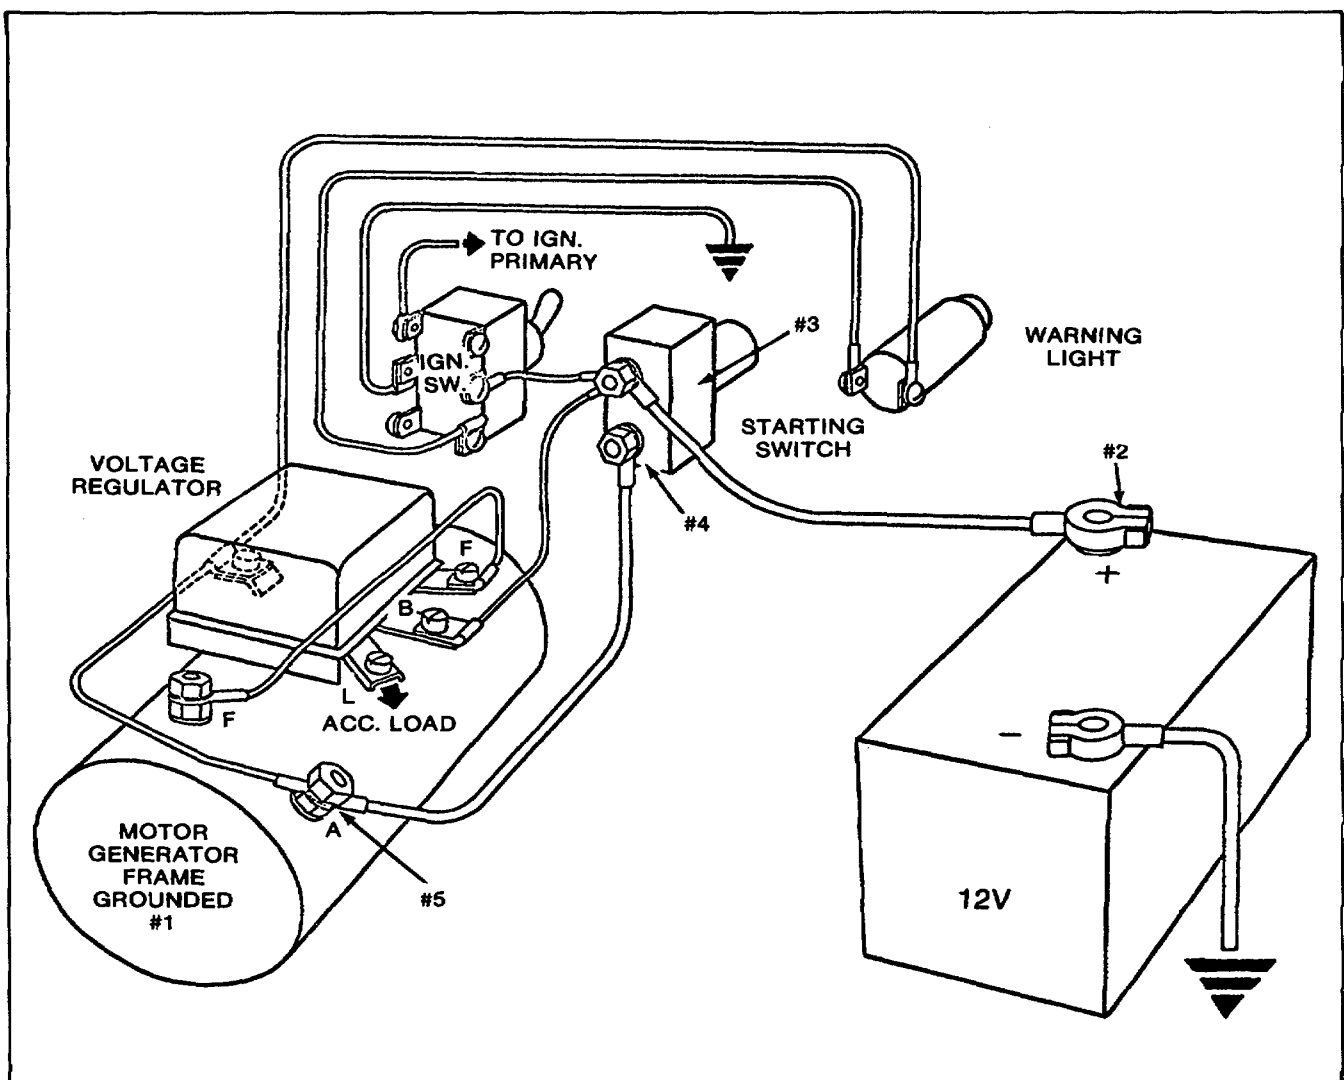

Fig. 132 - wiring Diagram
A simple method of increasing the charge rate is to disconnect the lead to the regulator BAT terminal and reconnect this lead to the regular (L) terminal. This bypasses the current-voltage feature of the regulator automatically increasing the amount of charge to the battery. See Fig. 132.
CHECKING STARTER-GENERATOR AND REGULATOR (See Fig. 132)